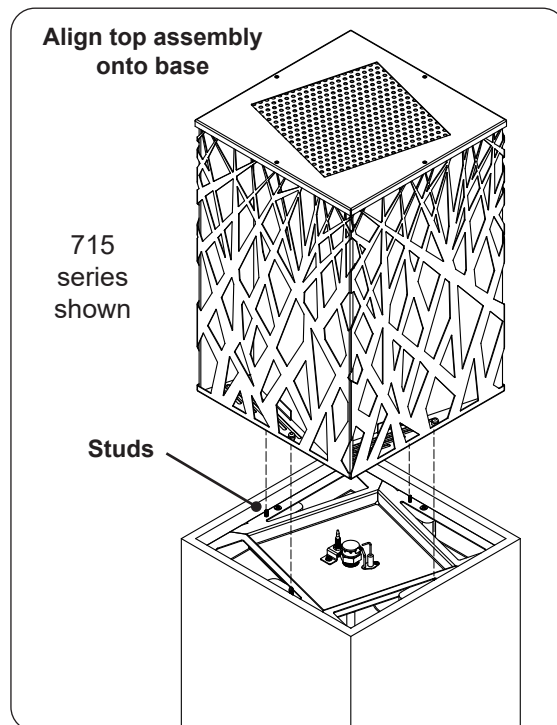

Fig. 25-1 Place top assembly
1. The top assembly is pre-assembled at the factory. **CAREFULLY** place the top assembly onto the lantern base. See Fig. 25-1.